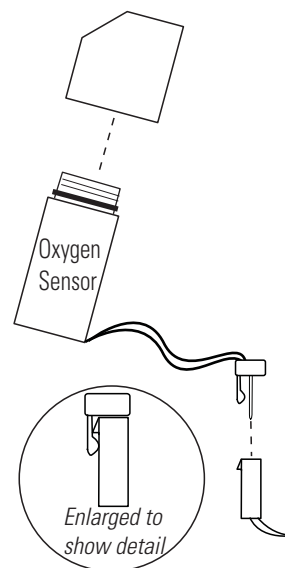

Figure 6-25. Detail
4. Lift up slightly on the tab securing the sensor wire terminal connection. Be careful not to break the tab off. Refer to enlarged detail of Figure 6-25.